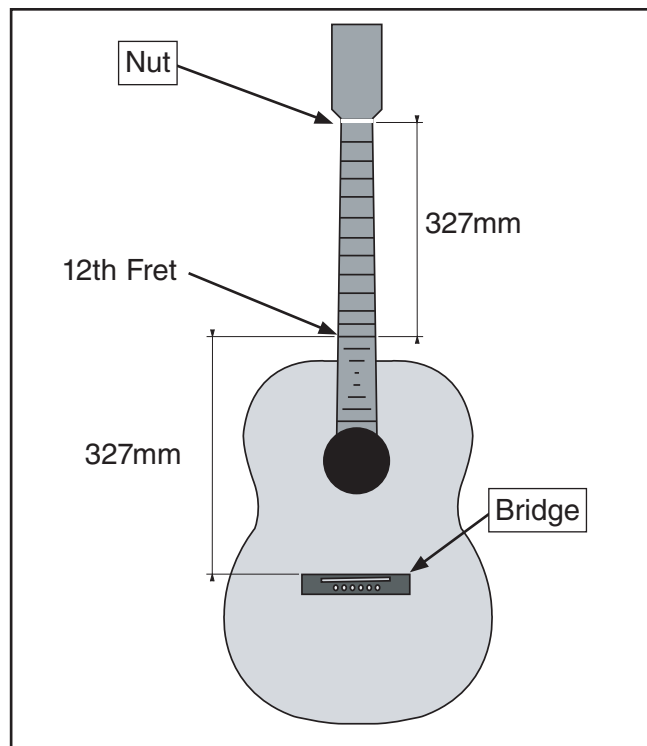

Figure 8. Bridge positioned correctly in relation to the 12th fret.
The bridge is glued directly to the body at the location indicated in **Figure 8**. Leaving an area of the body slightly smaller than the footprint of the bridge unfinished increases the strength of the glue joint that attaches the bridge to the guitar. The reduced size of this area allows the finish of the guitar to be consistent around the bridge.
1. Insert the saddle into the bridge and position the front right edge of the saddle 327mm away from the center of the 12th fret (**Figure 8**).